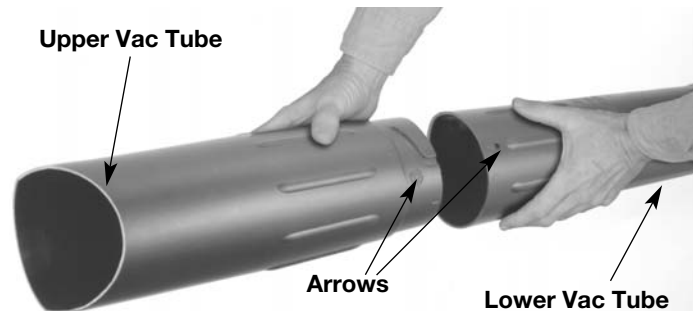

Fig.2
1. Align the small arrow on the lower vacuum tube with the arrow on the upper vacuum tube (Fig. 2).